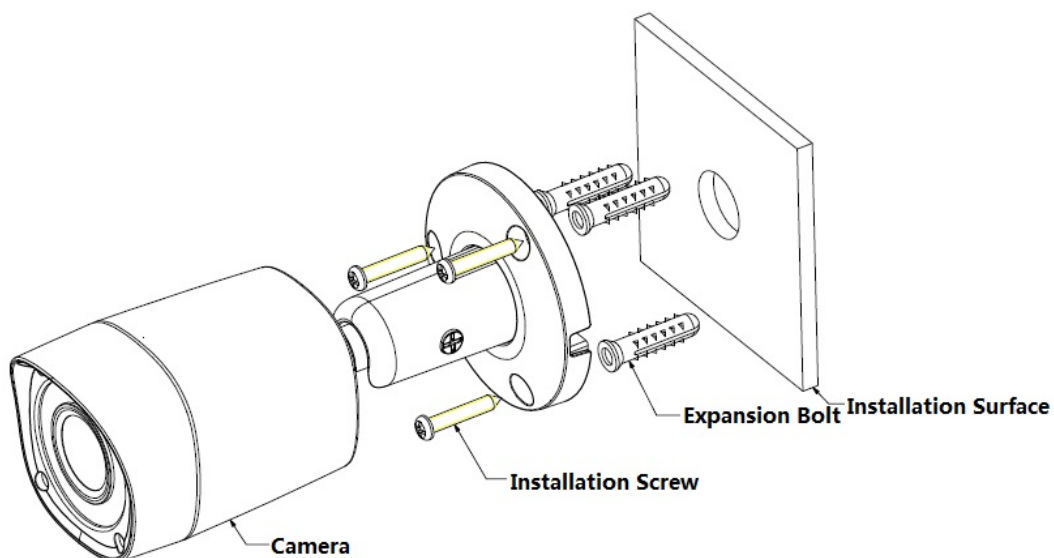

Figure 3-9
- Please install the expansion bolt if you want to install in the cement wall (Please make sure the installation holes of the expansion bolts are the same with the bracket.) Then you can install the bracket. See Figure 3-9.